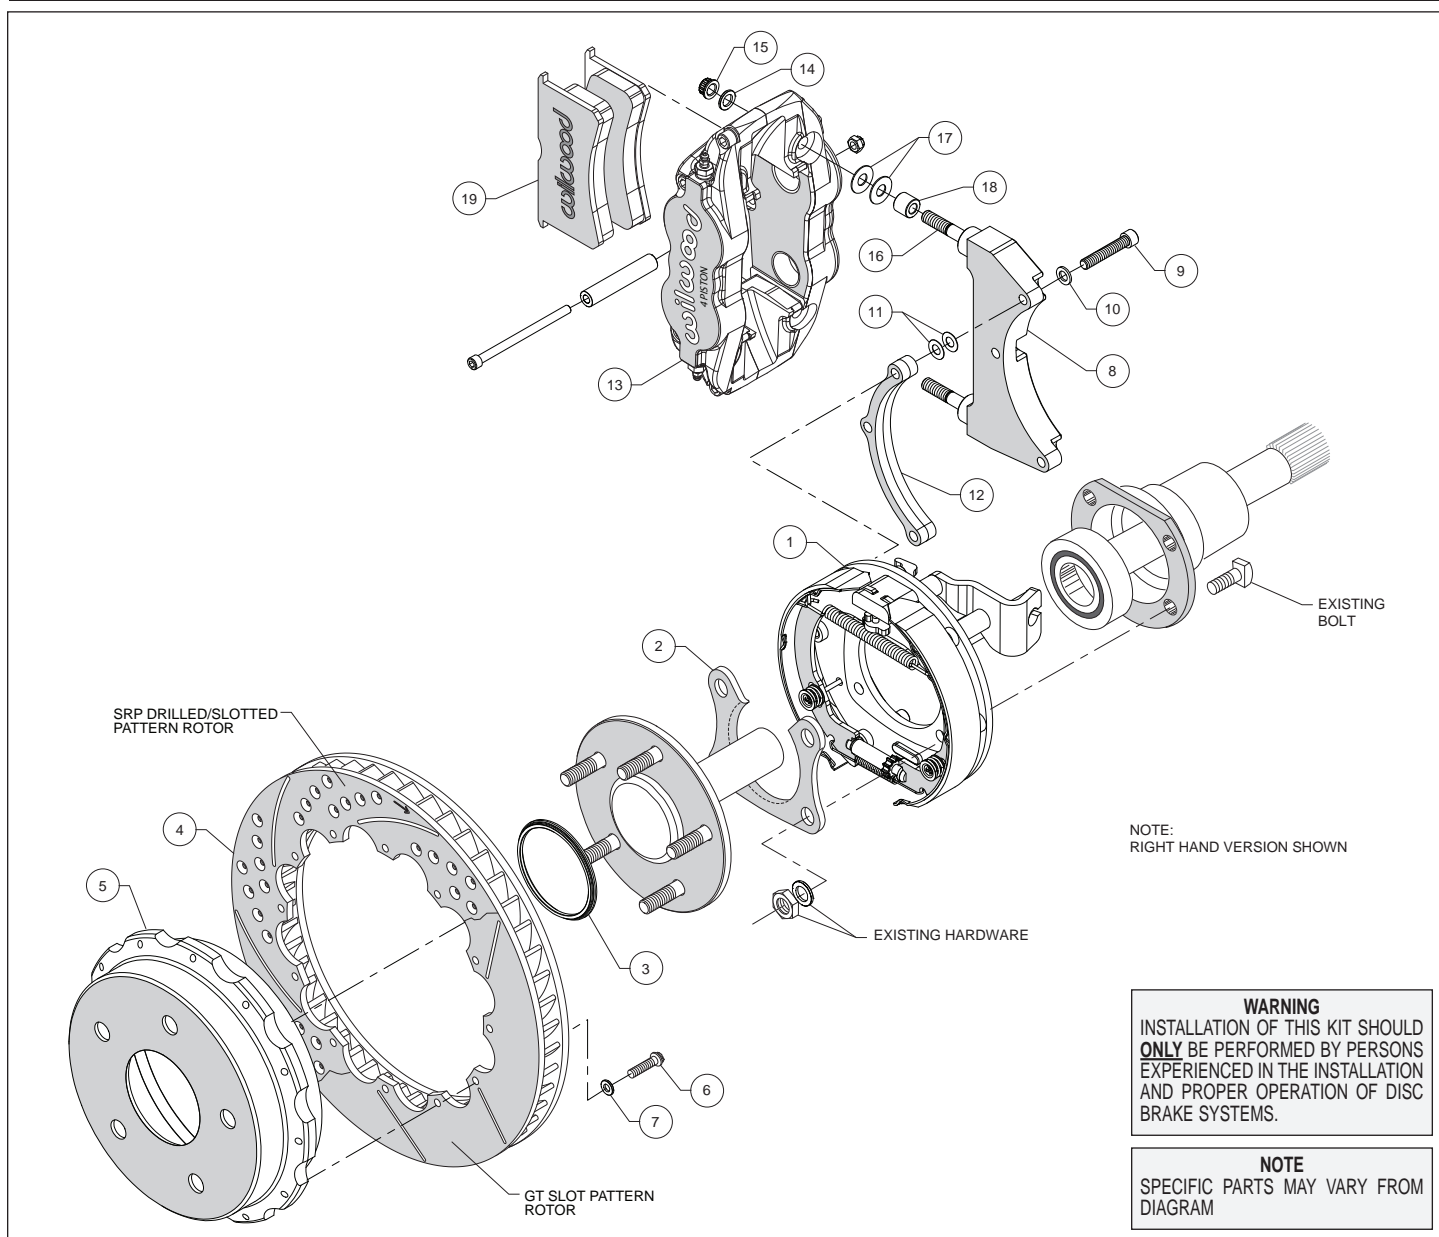
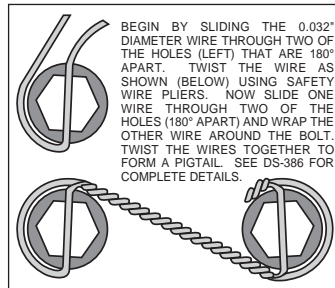

Figure 1. Typical Installation Configuration
Figure 5. Safety Wire Diagram
**Assembly Instructions** (numbers in parenthesis refer to the parts list, and Figure 1 on the preceding pages): **CAUTION:** All mounting bolts must fully engage clinch nuts. Be sure to check that all bolts are either flush or protruding through flanged side of clinch nut after shimming.
- Orient the bracket assembly (1) as shown in Figure 1 and Photo 1 and slide it onto the axle. Insert the axle and bracket into the axle housing. Ensure that the bracket assembly backing plate fits flush against the axle housing flange.
- Install the bearing retainer (2) with the opening pointing upward and the lip facing inward (toward the bearing), as shown in Figures 1 and 4, and Photo 2. Secure retainer and bracket assembly to the axle housing flange using the Original Equipment Manufacturer (OEM) bolts, washers, and nuts, Figure 1. Apply red *Loctite*® 271 to the OEM bolt threads and torque to OEM specifications.
•**NOTE:** Please reference the caution statement at the beginning of the assembly instructions. The caliper mounting bracket (8) should initially be installed with clean, dry threads on the mounting bolts. Orient the bracket as shown in Figure 1 and Photo 3, and install using bolts (9) and flat washers (10). Initially place two .015" shim washers (11) on each bolt between the bracket (8) and spacer (12), Figure 1. Temporarily tighten the mounting bolts. **NOTE:** End of bolt should not exceed inside face of insert. The bracket must tighten squarely against the back side of the bracket kit assembly (1). Inspect for interference from casting irregularities, machining ridges, burrs, etc. Later, after the caliper alignment has been checked, the mount bolts will be secured using red *Loctite*®.
•Orient the rotor (4) and the hat (5) as shown in Figure 1 and Photo 4. Attach rotor to hat using bolts (6) and washers (7). Using an alternating sequence, apply red *Loctite*® 271 to the threads, and torque to 140 **in-lbs**. For an added measure of security, the bolts may be safety wired using standard 0.032 inch diameter stainless steel safety wire as shown in Figure 5. Please refer to Wilwood's data sheet DS-386 (available at [www.wilwood.com/Pdf/DataSheets/ds386.pdf](http://www.wilwood.com/Pdf/DataSheets/ds386.pdf)) for complete safety wire installation instructions.
•Slide the rotor registration adapter (3) onto the axle register on the axle flange with the smaller O.D. facing toward the rotor/hat (4/5), Photo 5. Align the hole pattern in the hat with the stud pattern on the axle flange and slide into place, Figure 1 and Photo 6. **NOTE:** The rotor/hat must fit flush against the axle flange or excessive rotor run out may result. Install three lug nuts (finger tight) to keep the rotor/hat assembly in place while continuing with the installation. **NOTE:** Some OEM and after market axles come with stud sizes larger than 0.50" diameter. Verify stud size and have a qualified machine shop drill the bolt circle of the hat/rotor to the correct stud size, if necessary.
•Lubricate the caliper mounting studs (16) with lightweight oil. Initially place two .035" thick shims (17) and spacer (18) on each stud as shown in Figure 1 and Photo 7. Mount the caliper (13) onto the bracket (8) using lock nuts (15) and washers (14), Figure 1. Temporarily tighten the lock nuts and view the rotor through the top opening of the caliper. The rotor should be centered in the caliper, Photo 8. If not, adjust by adding or subtracting shims (11) between the bracket (8) and the spacer (12). Always use the same amount of shims on each of the three mounting bolts. Once the caliper alignment is correct, remove the bracket mounting bolts (9) one at a time, apply red *Loctite*® 271 to the threads, and torque to 180 **in-lb**.